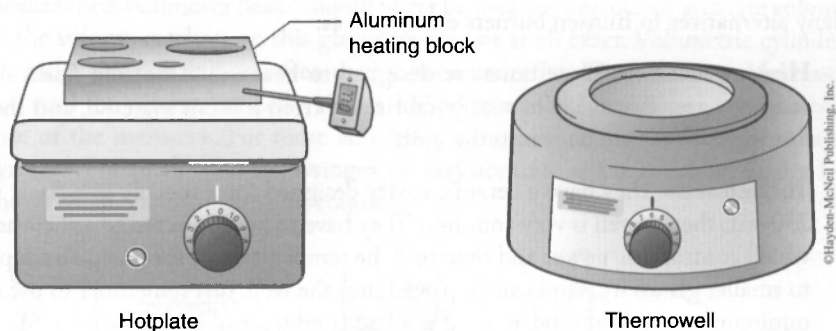

Figure 1-6. Heating methods.
- **Thermowells:** They have a ceramic cavity designed for a specific size flask; a 250-mL thermowell is very common. They have to be connected to a rheovac, which controls the power and therefore the temperature of the flask. To adapt to smaller glassware, sand can be placed into the well. Just remember to use a minimum amount of sand, as sand is a bad conductor of heat (Figure 1-6).
- **Aluminum block with hot plate/stirrer:** An aluminum block is specialized equipment often used in teaching labs that use microscale glassware (Figure 1-6).